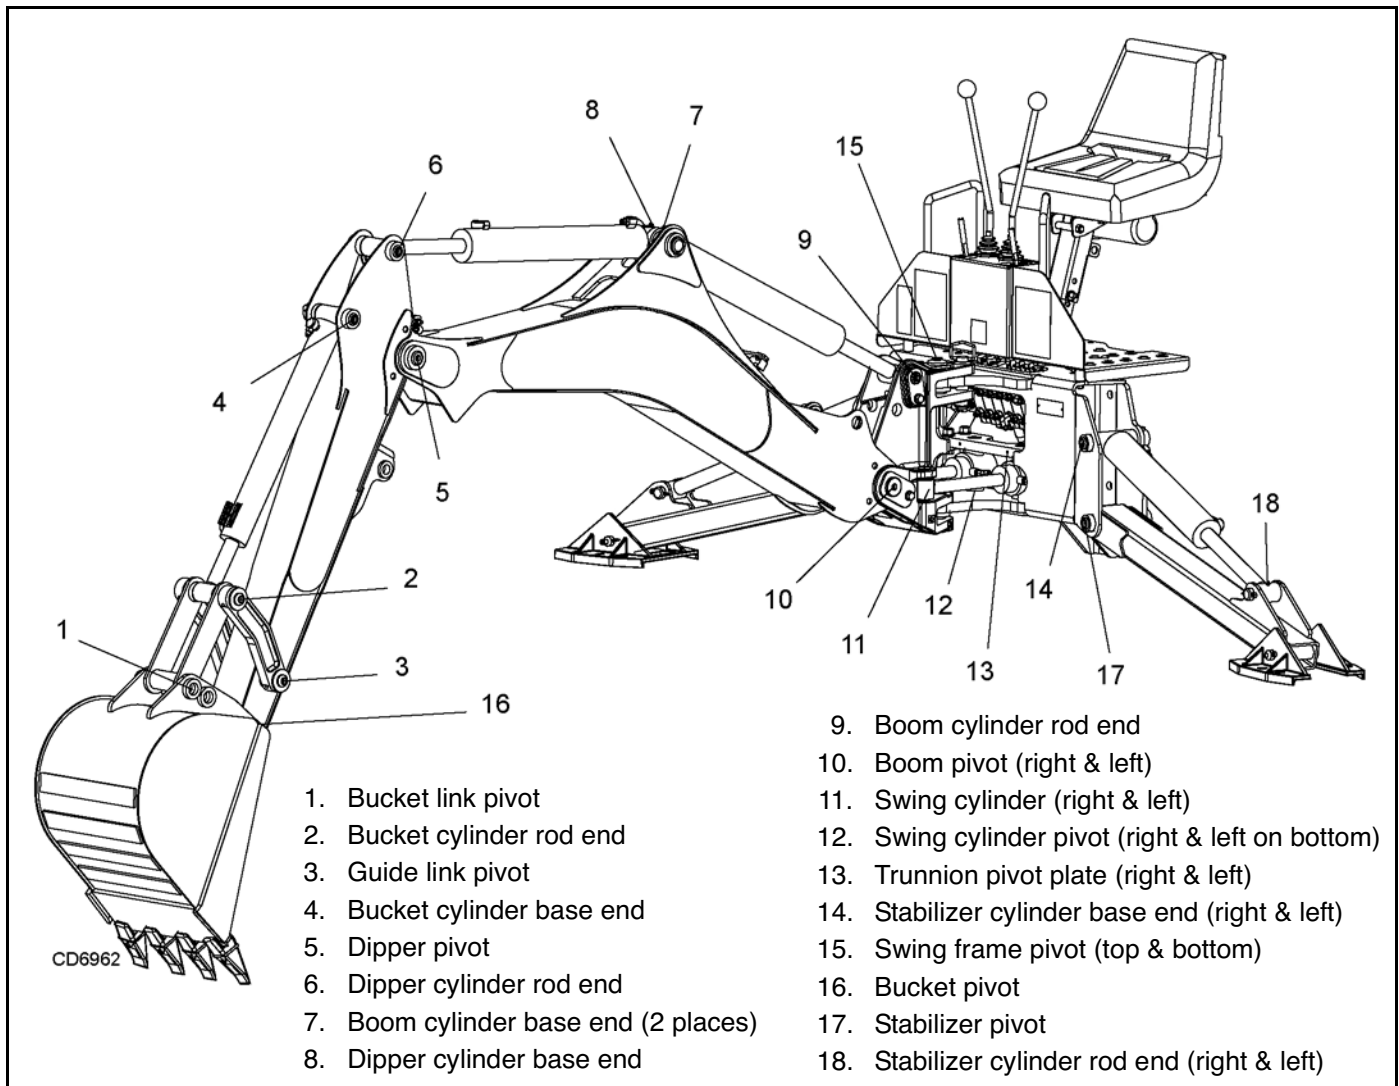

Figure 16. Lubrication Points
Figure 16 shows lubrication points for the backhoe.
On threaded guide type cylinders, Figure 16, remove set screw (4), unscrew guide (5) using a spanner wrench, or carefully use a punch and hammer. Pull on rod (1) to remove parts from barrel.